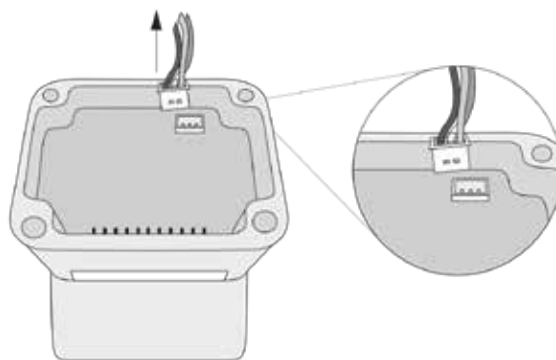

Fig. 07
4. Pull the male connector attached to the battery. Be careful not to use excessive force to avoid damaging the fixed connector (Fig. 07).